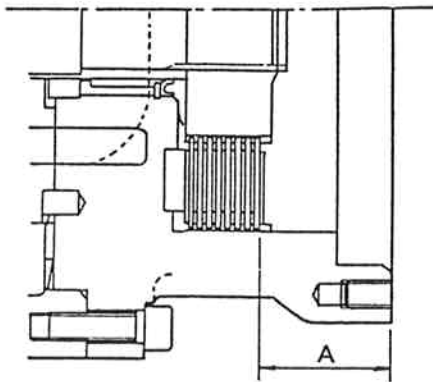

Fig.8 Checking Dimension A
- 8) Paying attention to the installation direction of the valve cover, install valve cover (14) on case (13), and secure it with capscrews (16 and 17).
- 9) Install coupling (37) on drive shaft (01), and secure it with snap ring (21).
- 10) Insert brake shims (44) to the spline section of coupling (37) and valve cover (14). Alternately insert separator plate (45) and friction plate (46). In this case, do not change order or the number of plates. Measure dimension A from the end face of the valve cover to the friction plate (see Figure 8), and adjust the brake brake shims so that dimension A becomes the specified value shown in Table 9.